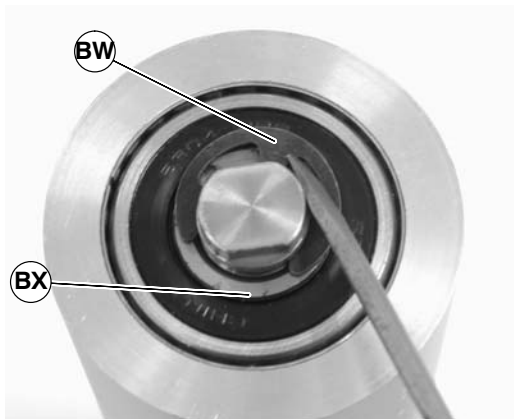

Figure 73
6. Remove the pulley shaft assembly: remove the clip ring (BW of Figure 73) and washer (BX) from one side of the pulley assembly.